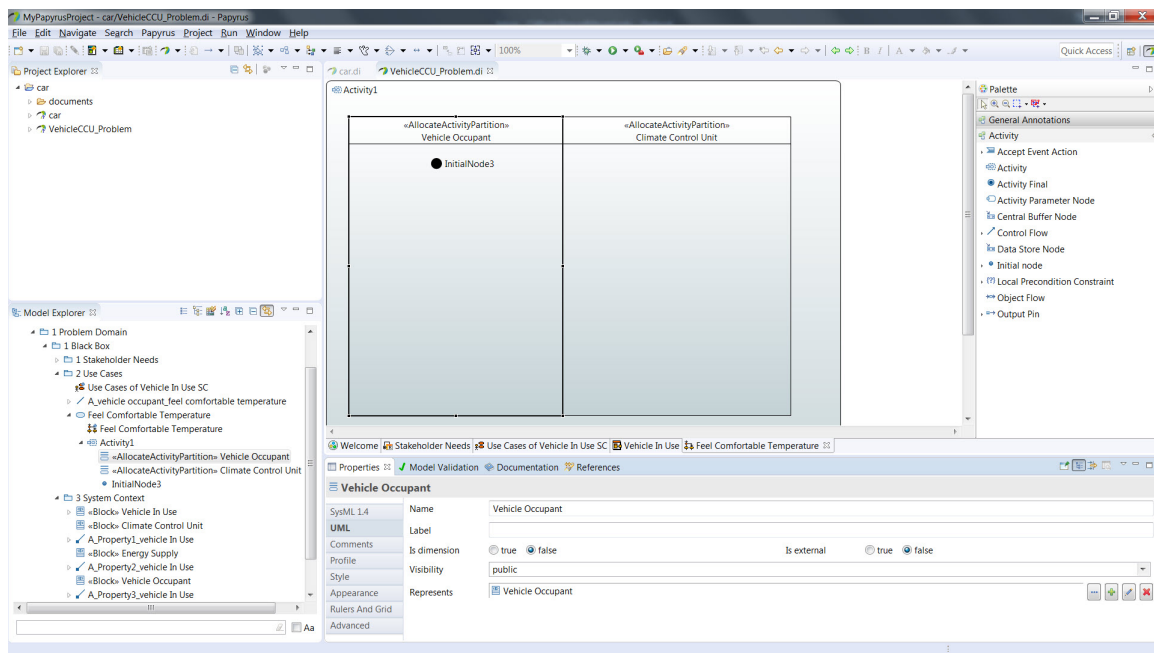

Figure 45: Activity Diagram Initial Node
15. Ensure that the *Feel Comfortable Temperature* activity diagram is selected in the main window. You will see the **Activity** tool palette on the right. Click on **Initial node** in the tool palette then click in the *Vehicle Occupant* activity partition and an initial node will be created (figure 45). Note that the node has a label next to it in the diagram. These labels can be cumbersome so select the *Initial node* in the activity diagram or in the *Model Explorer* window. Now select the **UML** tab in the **Properties** tab at the bottom of the screen (figure 45). Click in the **Label** field and type one blank space with the <Spacebar> and press *Enter*. The label should now be removed.